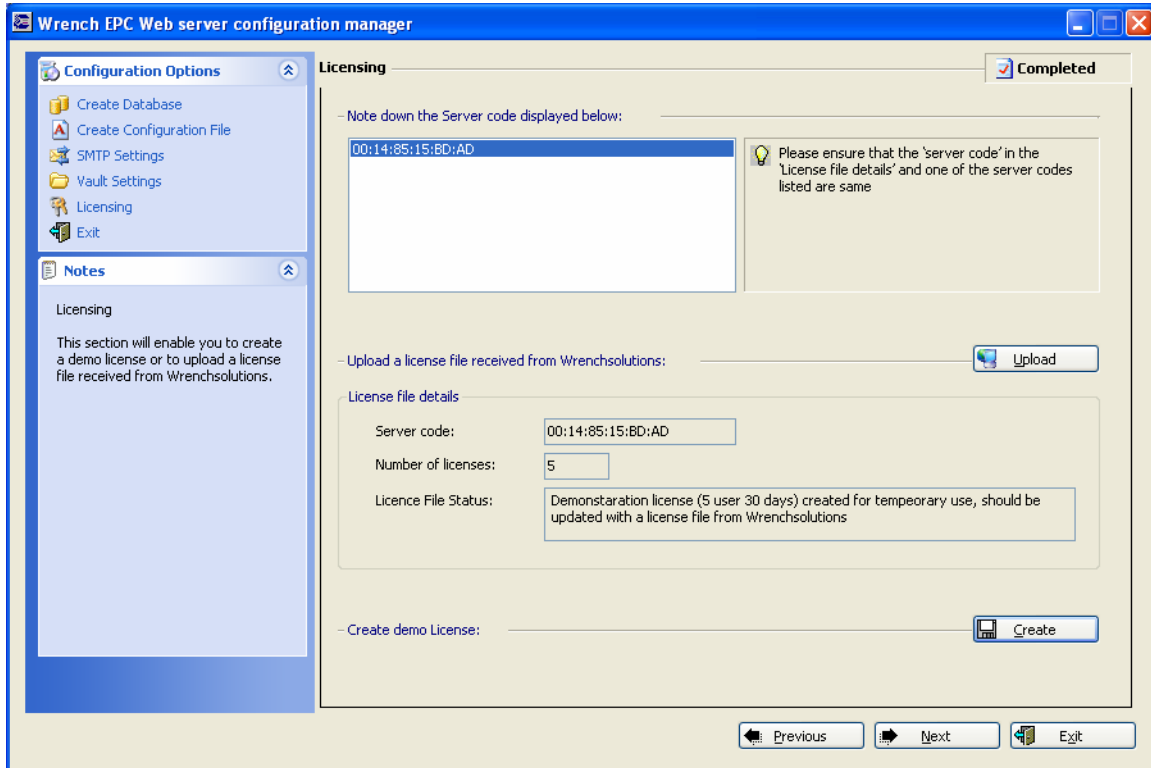

Figure 7 - Wrench EPC Server Configuration (Licensing)
Client Access Licenses are issued based on a server code. The server code will be automatically computed by the configuration program and displayed as seen in figure 7. You need to send this server code along with the number of client access licenses required, to “Wrench Solutions (P) LTD” for obtaining a license key. Once a license key is obtained, click on the “Upload” button to select the license file supplied by Wrench Solutions (P) LTD. On selecting a proper license file, system will display the total number of licenses available. While awaiting a license key from Wrench Solutions (P) LTD, you may continue to use the Wrench system using a demo license. Click on “Create” button (or click on “Next” button) to avail five user client access license for a period of 30 days. Demo license can be converted to regular license by obtaining a license key as mentioned above.